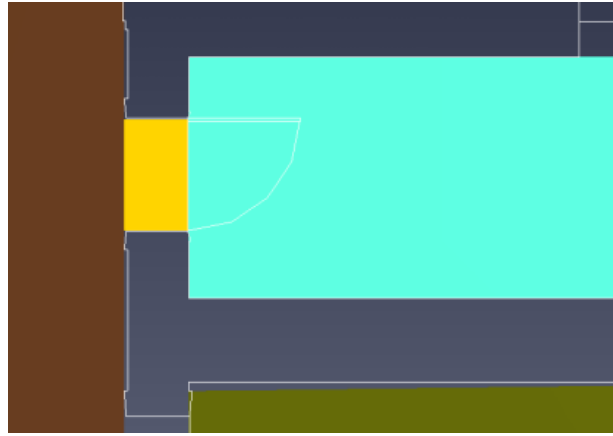

Figure 43. Thick door connecting the rooms
3. The created door will appear as an orange rectangle in the 3D and 2D views as shown in Figure 43.